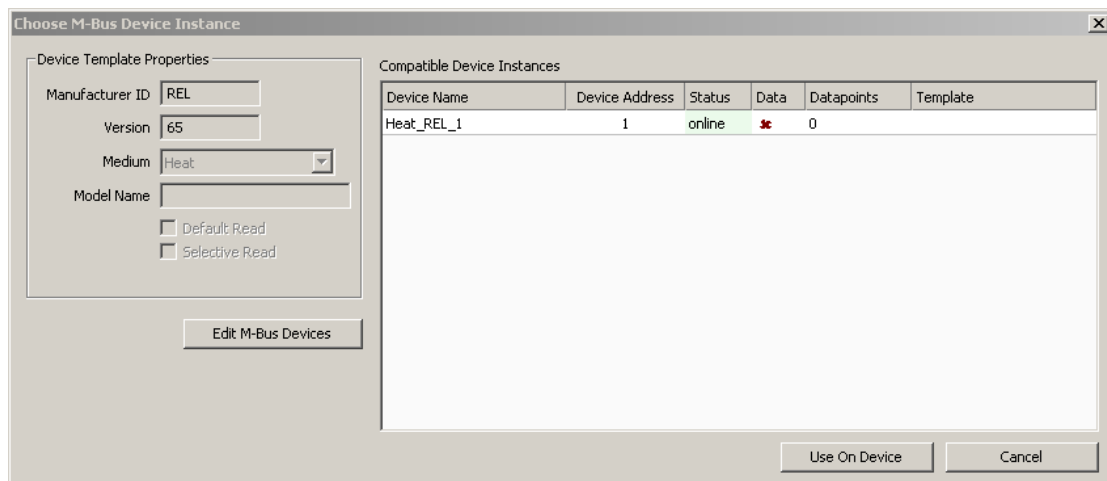

Figure 122: Use on Device dialog.
3. Either press on the **Use on Device** button  or right-click and select **Use on Device**. This opens the **M-Bus Configure Device For Use** dialog shown in Figure 122.